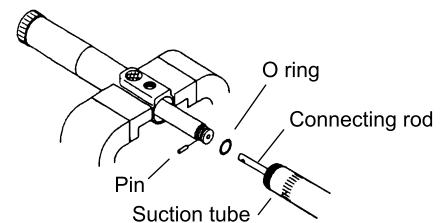

Fig. 9
- 5) Fix the pump body with a vise. (Fig. 9)
- 7) Remove an O ring from the plunger section, take out a pin, and pull out a connecting rod. (Fig. 9)